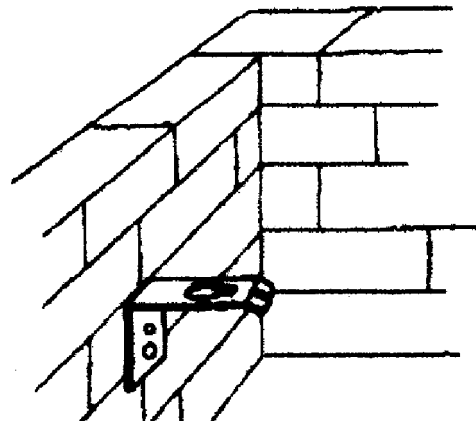

Figure 6. Install Bracket
C. Install bracket towards the front of the firebox wall, about 20 inches off the firebox floor. This will contain the damper operating cable. Use a 1/4" masonry bit to avoid cracks in the firebrick. See Figure 6.